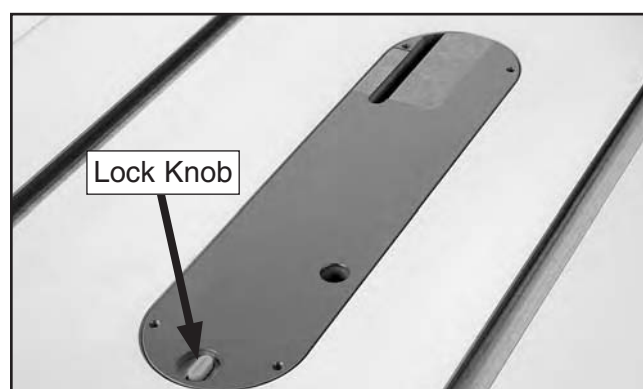

Figure 20. Insert lock knob unlocked.
17. Install the right rear rail onto the table and right extension wing with (3) M8-1.25 x 20 hex bolts, (3) 8mm lock washers, and (3) M8-1.25 hex nuts. Do not fully tighten at this time.
19. Turn the lock knob that secures the table insert so it is parallel to the inner slot, as shown in **Figure 20**, remove the insert and set it aside, then raise the blade up all the way